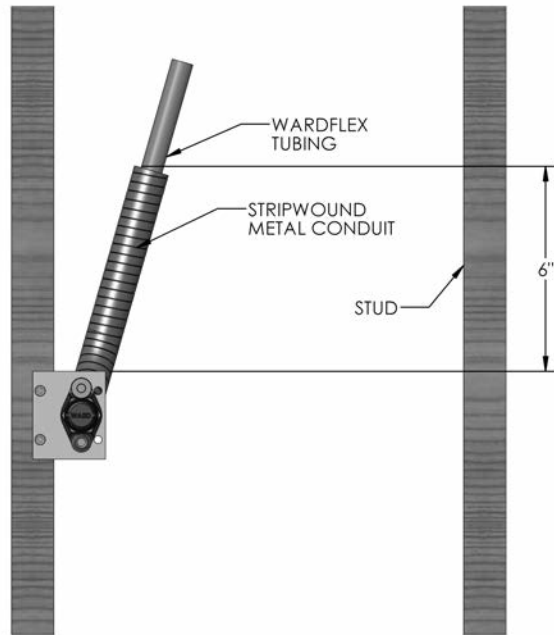

Figure 4.12
- B. Stripwound conduit shall also be used to shield tubing from puncture threats when WARDFLEX®/WARDFLEX® II is installed in a concealed location where it cannot be displaced a minimum 3" from a potential puncture threat or the distance between supports is less than 24 inches. See Figure 4.12.